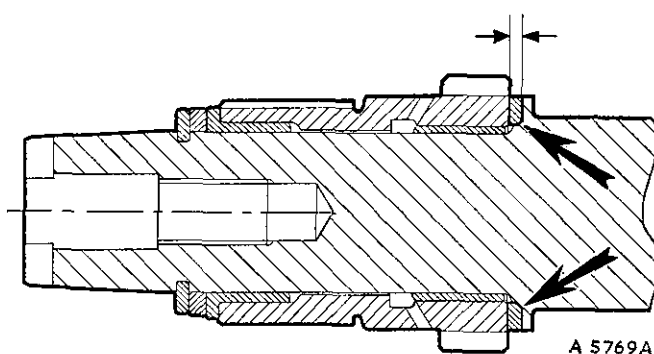

Fig. A.17
- (10) Remove the primary gear as described in Section A.18.
- (11) When refitting, check the running clearance (Fig. A.17).
- (12) Adjust by fitting the appropriate thrust washer with the chamfered inner edge of the washer to face the crankshaft (see Fig. A.17).